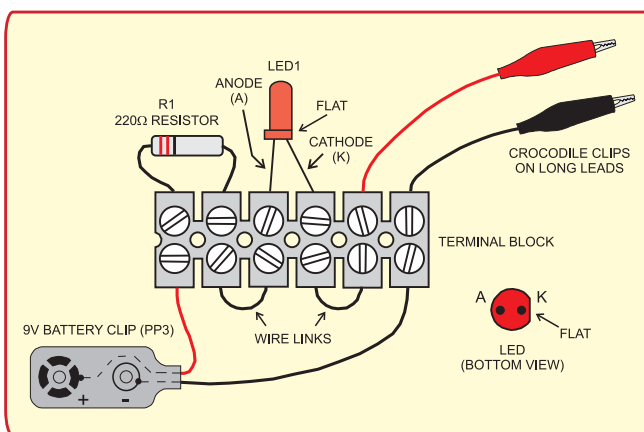

Fig.1.4: Assembly of the Circuit Tester
YOU will find this simple project a handy way of checking the electrical properties of some components and circuits that you will be using when assembling projects on Protobloc. However, instead of using a Protobloc for this project, it has been assembled on a 6-way length of screw-terminal block, as shown in Fig.1.4. Its circuit diagram is shown in Fig.1.5.
as shown in Fig.1.4, making sure that LED1 is connected so that its anode (A) lead is in the position shown on the terminal block. The other lead is known as the cathode (K). Usually, the anode is the slightly longer lead.